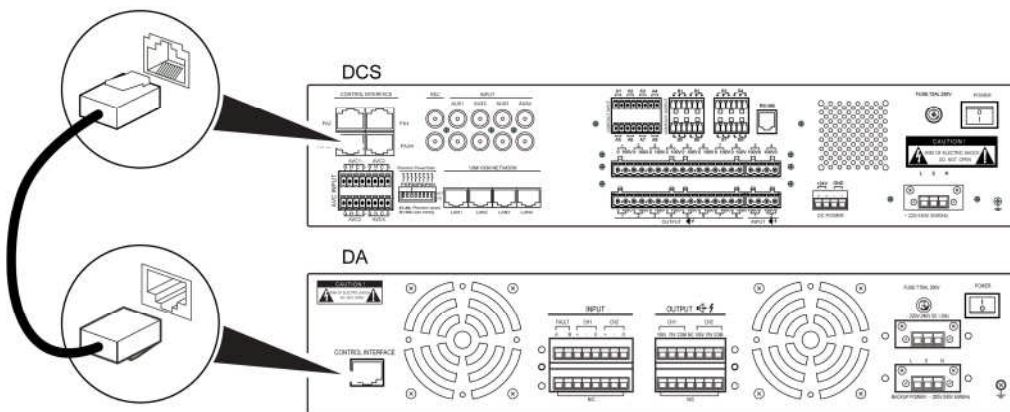

Figure 11 Connecting the RJ45 Audio Cable to the DCS and DA
- Connect the **PA1/2** port of the two-channel power amplifier to the DCS control port using one network cable. Refer to Figure 11.
1. Connect the DA RJ45 port to the DCS control port using the audio input lines that are included in the package containing the DA, as shown in Figure 11.